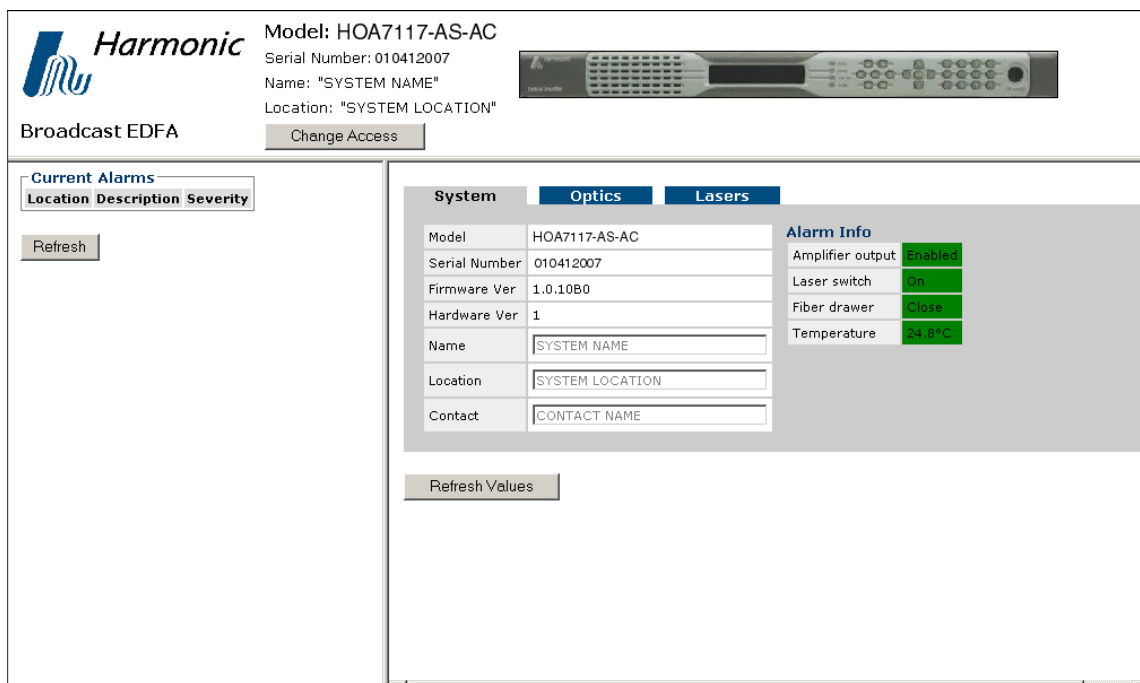

Figure 4-1. System status page of HOA 7100 web interface
2. In the web browser's Address (URL) field, type the IP address of the amplifier, then press Enter. Your browser connects to the amplifier, and the System Status page of the web interface appears, as shown in Figure 4-1. The Alarm information for the system appears to the right of the System Status information.
3. The three menu tabs labeled System, Optics and Lasers allow you to select which of the three pages is shown. The active menu tab is gray, while the inactive tabs are blue. Figure 4-1 through Figure 4-3 show examples of the Optics and Lasers Status pages.
1. Enter the web interface (follow the instructions above). The System Status web page appears, as shown in Figure 4-1 on page 4-3.